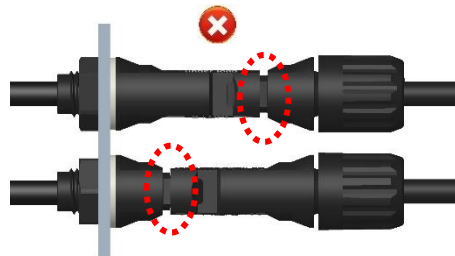

Figure 21
- ✧ 公母连接器插合：将公/母电缆连接器插入母/公面板连接器，直至其啮合。轻轻拉动，以检查是否啮合牢固（如图 19-20）。同时检查公母连接器有无对配不到位现象（如图 21）。
Insert the Male/ female cable connector into the female/ male panel connector until they engage. And pull lightly to check correct engagement (Fig. 19-20). At the same time, check whether the male and female connectors are in place or not (Figure 21).